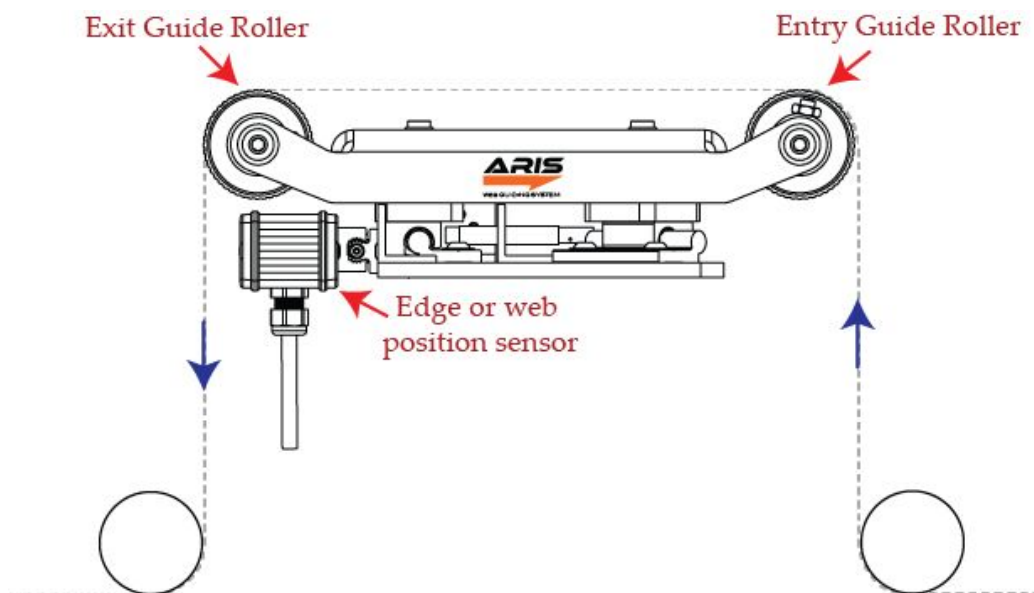

Fig. 1: Components of a web guiding system (Controller located remotely)
- The sensor rail should be positioned such that the sensor is at the downstream span of the web guide as shown in Fig. 1.